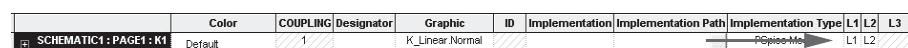

FIGURE 12.39 Set up a coupled inductor.
7. In addition, determine which inductors are coupled together. Double-click the Coupling Factor, “K_LINEAR” to enter the properties menu. Under L_1 and L_2 (see arrow in Figure 12.39), enter L_1 and L_2 (or the inductor name that appeared in the circuit).